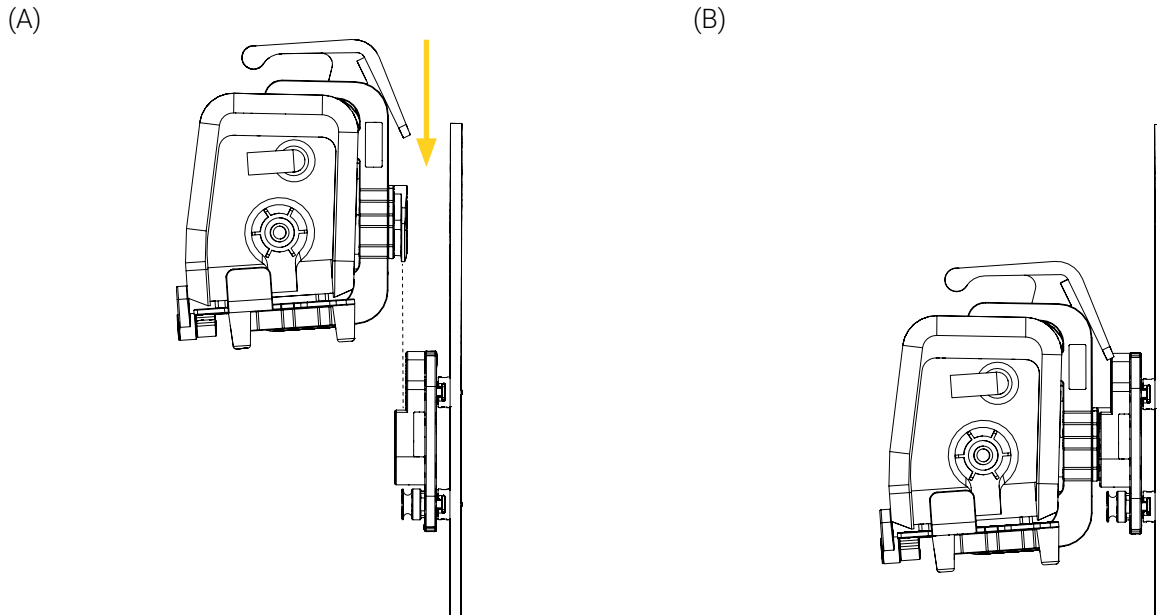

Figure 20: Installing the BP60–FL in a vertical mounting system
1. Align and insert the anti-rotation micro disc located at the back of the BP60–FL in the mounting system vertically until it locks (Figure 20).